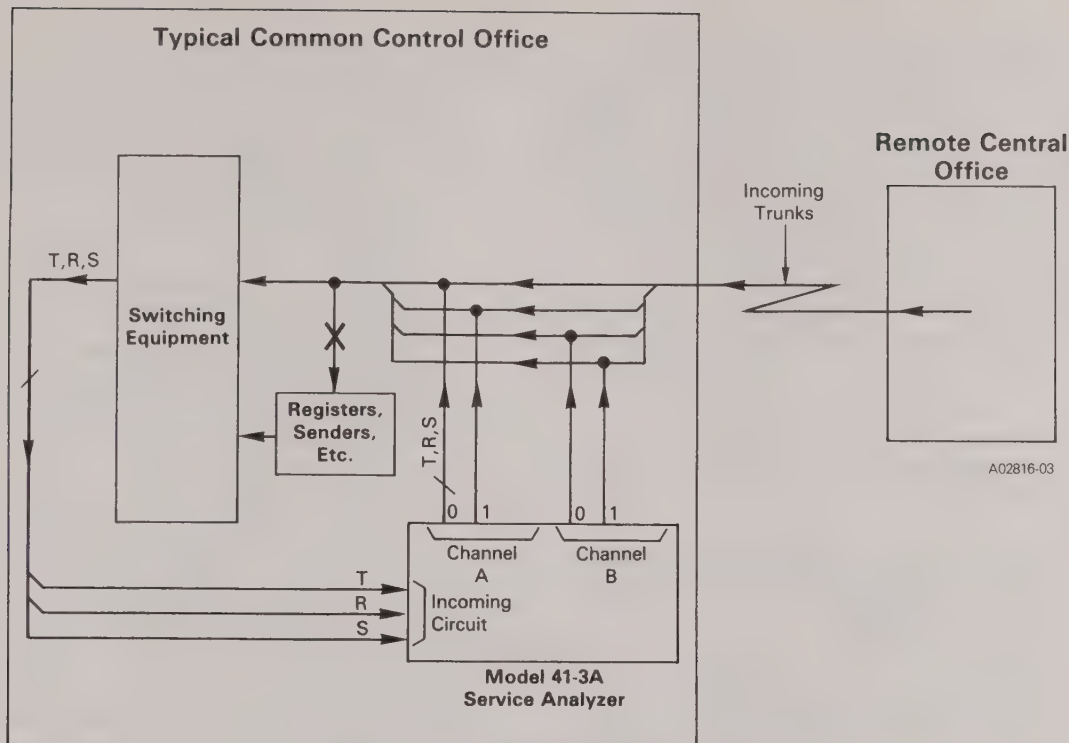

Fig. 16—Routing Incoming Trunks
3.73 This application describes routing incoming loop trunks requiring multifrequency dialing. Fig. 16 shows the analyzer properly connected to incoming trunks. If less than 16 trunks are tested, they should be evenly divided between channel A and channel B. This allows troubleshooting a held line on one channel, while testing progresses on the other channel.